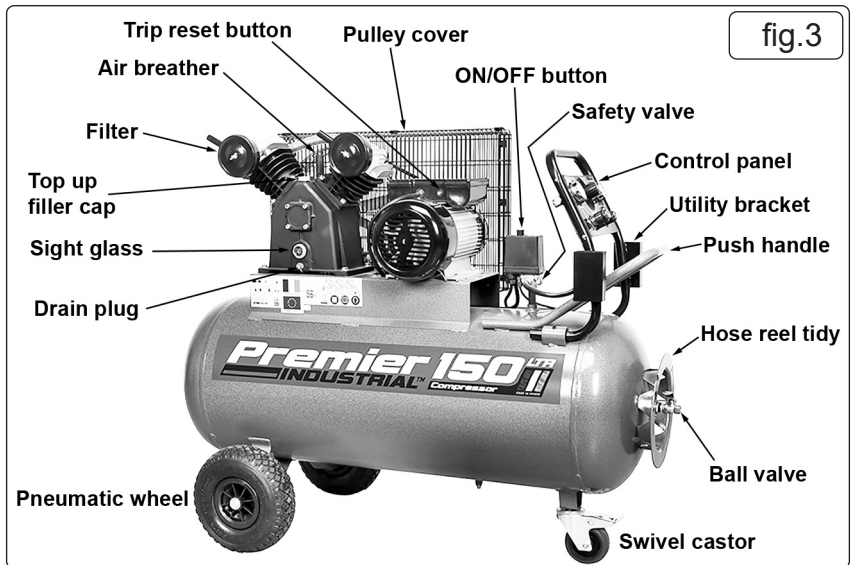
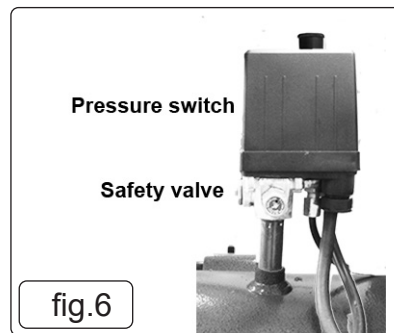

fig.3
fig.6
- 4.2.1. Screw the filter unit into the port openings in each head as shown in (fig 3).
- 5.4. Before using the compressor check the oil level by referring to the oil sight glass (fig 3). On a horizontal surface, if the oil level is not up to the red centre mark it should be further topped up with recommended oil, see section 6.7.
- 5.5. To top up undo filler cap (fig 3), top up oil level to required level, then replace filler cap.
- 5.7.1. Your compressor is fitted with a push/pull type ON/OFF button to turn the compressor "ON" pull the ON/OFF button upwards. To turn the compressor "OFF" push the ON/OFF button downwards (fig 3).
- 5.7.3. Plug mains lead into mains supply and start the compressor pulling the ON/OFF button (fig 3) upwards.
The pressure switch (fig 6) stops the motor when the maximum tank pressure is reached and restarts it when pressure falls below the minimum threshold approximately 2bar (29psi) less than the maximum pressure.
- 5.7.5. Stop the compressor by pushing the ON/OFF button (fig 3) downwards. The compressed air inside the compressor head will flow out via the air line tube situated beneath the switch housing. Restart is made easier and prevents the motor from being damaged. **DO NOT**, other than in an emergency, stop the compressor by switching off the mains power, or by pulling the plug out, as the pressure relief will not then occur and motor damage may result upon restart.
Should the pressure in the main tank exceed the pre-set maximum, the safety valve (fig 3) will activate.
- **WARNING!** For this reason **DO NOT** tamper with, or adjust, the pressure switch (fig 6) or safety valve (fig 3).
5.7.7. The compressor is fitted with a trip reset button, located on the side of the connection box on top of the motor (fig 3). Should the trip reset button activate, leave for 1 minute before pressing the button to reset.
Remove the filler cap (fig 3) then unscrew the drain plug (fig 3) and drain the oil into a suitable waste oil container.